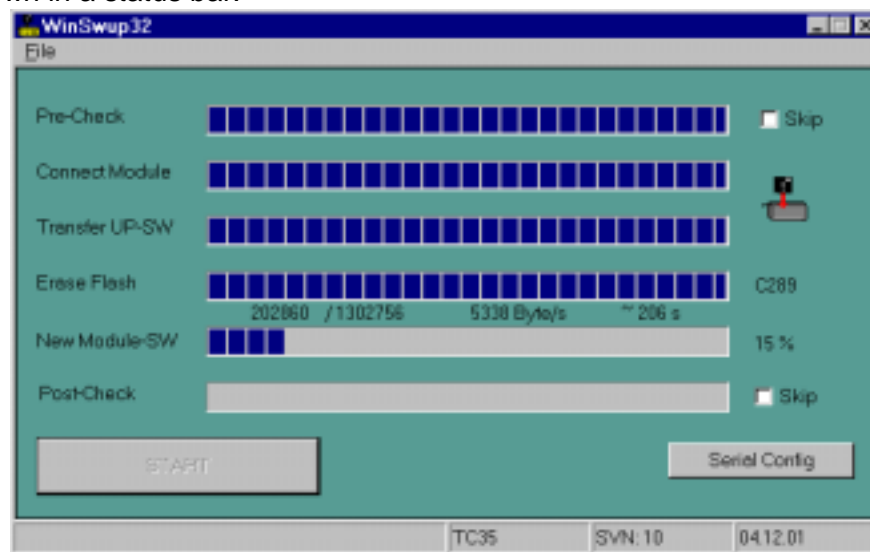

Figure 13: WinSwup32 window during download
6. The Pre-check function of WinSwup32 (see Figure 13) is capable of checking whether your current firmware is serviceable. Since this test can only be completed if your current firmware is working, you need to